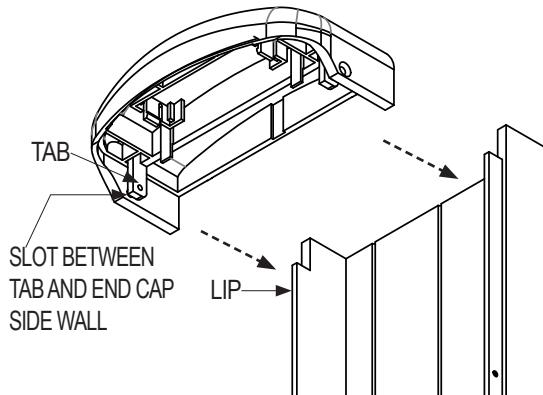

Figure 4.5 End Cap Alignment
- Match and insert the Back Box Lips into the Slots between the End Cap Tabs and the End Cap Side Walls. (Figure 4.5)